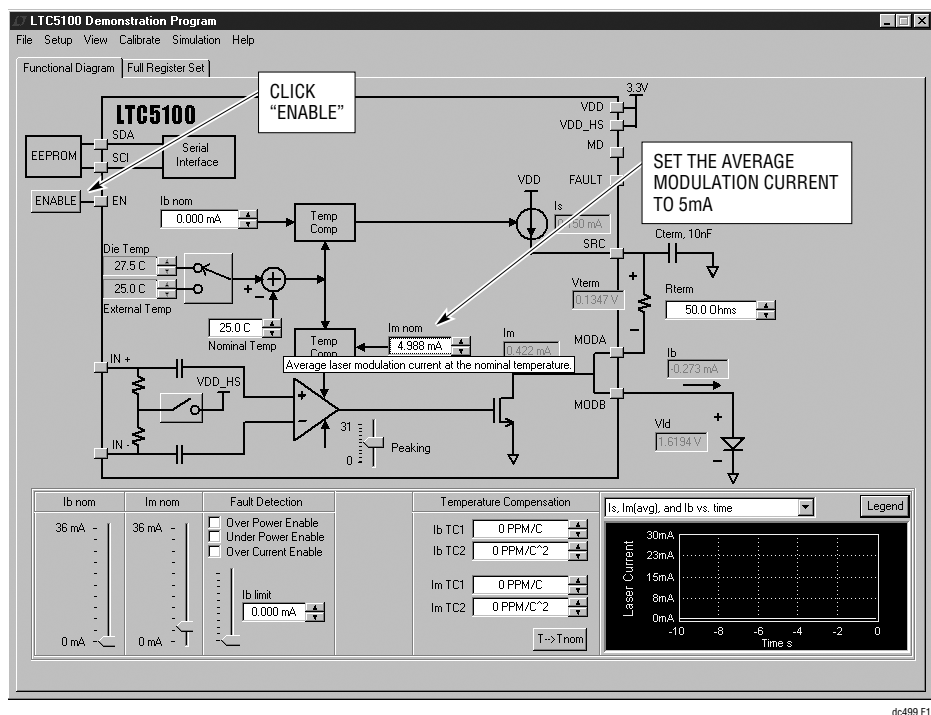

Figure 10. The LTC5100 Demonstration Program Setup for an Electrical Eye Diagram
5. Follow the instructions in the white boxes in Figure 10.